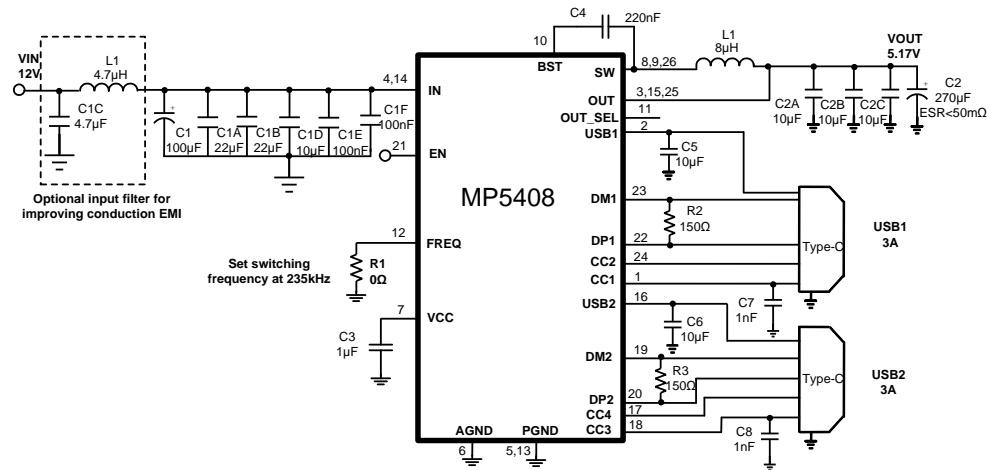
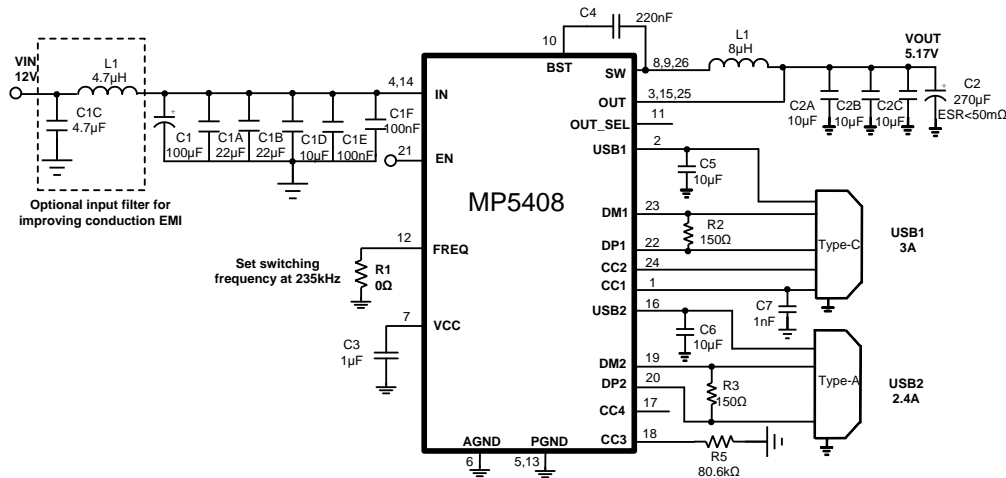

Figure 12: Dual USB Type-C 5V/3A DFP Ports (11)
Figure 14: One Type-C 5V/3A DFP Port, One Type-A 5V/2.4A Port (11)
10) The recommended layout is based on the Typical Application Circuits in Figure 12 through Figure 14.